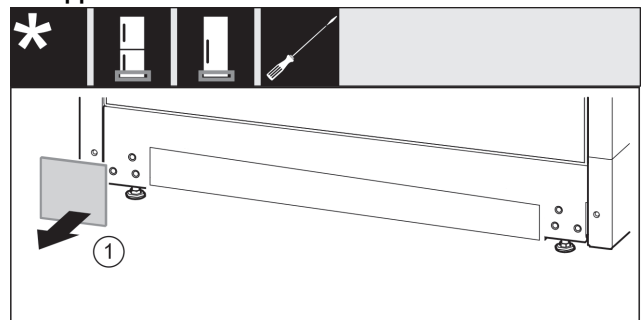

Fig. 11
- ▶ Remove the cover. Fig. 11 (1)